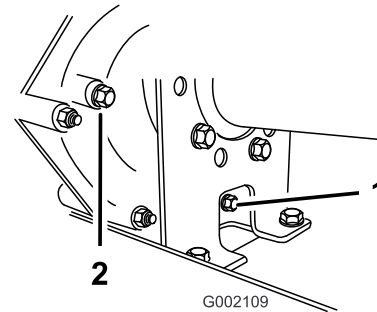
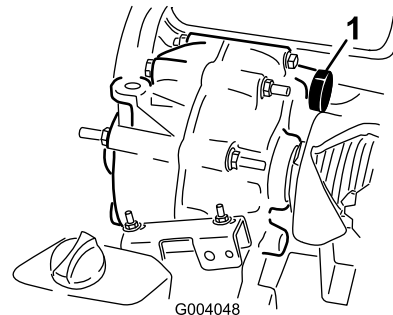

Figure 35
Figure 36
2. Remove the drain plug from the right side of the reservoir (Figure 35) and let the fluid flow into a drain pan. Install and tighten the plug when the fluid stops draining.
3. Fill the reservoir (Figure 36) with approximately 1-1/2 qt. (1.4 liters) of SAE 10W30 motor oil or until the oil level is at the bottom of the level indicator hole (Figure 35).